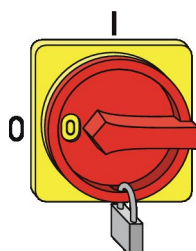

Fig. 51: Securing the main switch
- Secure the main switch with a padlock (Fig. 51).